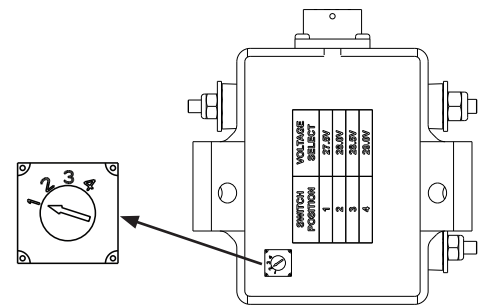

Figure 6: N3044 Regulator Voltage Selection Switch (on bottom of regulator)
- N3044 regulator has four selectable set points. Before installing regulator, verify appropriate switch setting for your application on bottom of regulator and change if necessary. See Figure 6 and Table 1 for fixed voltage set point options. **Contact battery manufacturer or vehicle OEM for charging set point recommendations for your environment or application if necessary.**